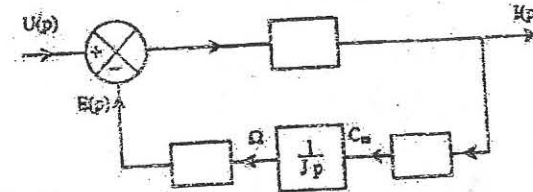

Figure 1
1.2.1. $U(p)$, $I(p)$, $C_m(p)$, $\Omega(p)$ and $E(p)$ are respectively the Laplace transforms of $u(t)$, $i(t)$, $C_m(t)$, $\Omega(t)$ and $e(t)$. Show, by supplementing the blocks of the causal diagram of figure 1, that this diagram interprets the equations (1), (2), (3) and (4).